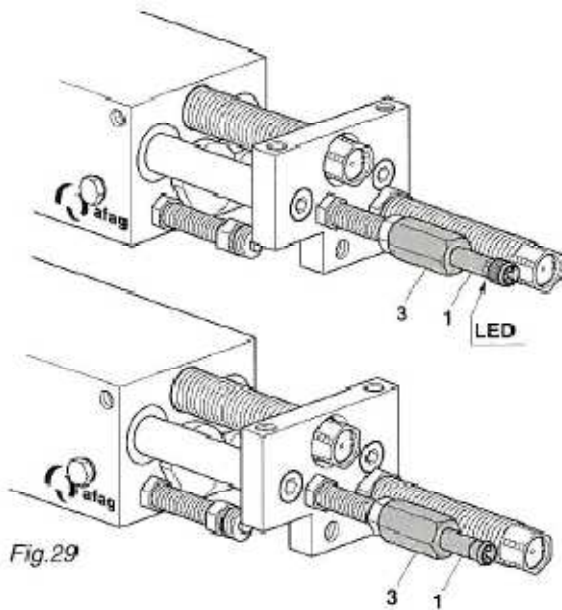

Fig.29
To end the query LM are plug and screw d6.5 mm (1) or 8x8 mm (2) with initiators initiators holder (3) used. (Fig.29+30) an LED on the initiator used to function monitoring in the end beaten query. Changes the LED in the end their query condition is not switching, the initiator is defective and must be made!